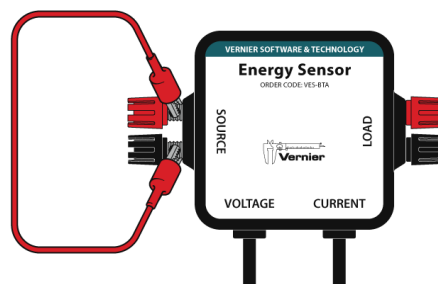

Figure 3
- a. Connect the Energy Sensor Source terminals to each other with a wire, as shown in Figure 3.